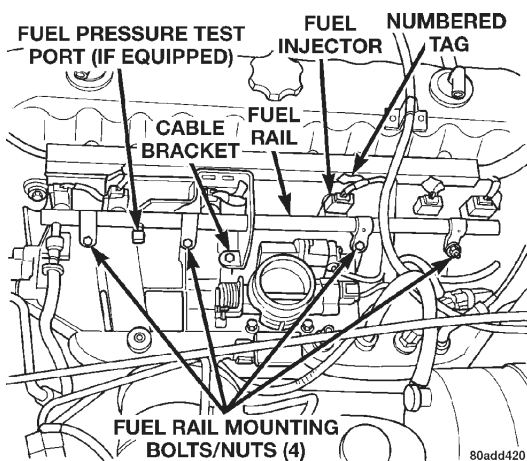

Fig. 31 Fuel Rail Mounting—4.0L Engine
- (1) Remove fuel tank filler tube cap.
- (2) Perform Fuel System Pressure Release Procedure as described in this Group.
- (3) Disconnect negative battery cable from battery.
- (4) Remove air tube at top of throttle body. Note: Some engine/vehicles may require removal of air cleaner ducts at throttle body.
- (5) Remove injector harness electrical connectors at each injector. Each injector connector should have a numerical tag attached identifying its corresponding cylinder (Fig. 31). If not, identify each connector before removal.
- (6) Disconnect fuel supply line latch clip and fuel line at fuel rail. Refer to Quick-Connect Fittings in this group for procedures.
- (7) Disconnect throttle cable at throttle body. Refer to Throttle Cable Removal/Installation in this group for procedures.
- (8) Disconnect speed control cable at throttle body (if equipped). Refer to Speed Control Cable in Group 8H, Speed Control System for procedures.
- (9) Disconnect automatic transmission cable at throttle body (if equipped).
- (10) Remove cable routing bracket (Fig. 31) at intake manifold.
- (11) Remove nut securing crankshaft position sensor pigtail harness to fuel rail mounting stud. Remove clamp and harness from fuel rail mounting stud.
- (12) Clean dirt/debris from each fuel injector at intake manifold.
- (13) Remove fuel rail mounting nuts/bolts (Fig. 31).
- (14) Remove fuel rail by gently rocking until all the fuel injectors are out of intake manifold.